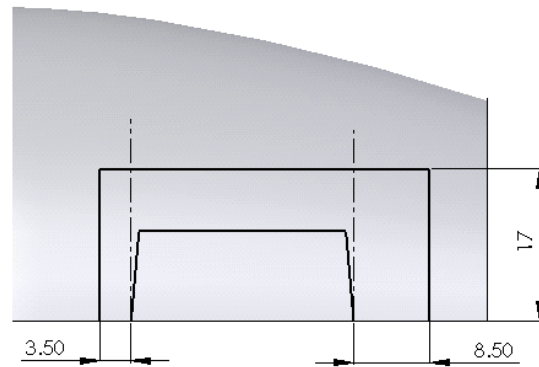

Figure 15-124 Sketch of the second section for creating the lofted surface of the handle
5. Create an open sketch as shown in Figure 15-124 and exit the sketching environment.